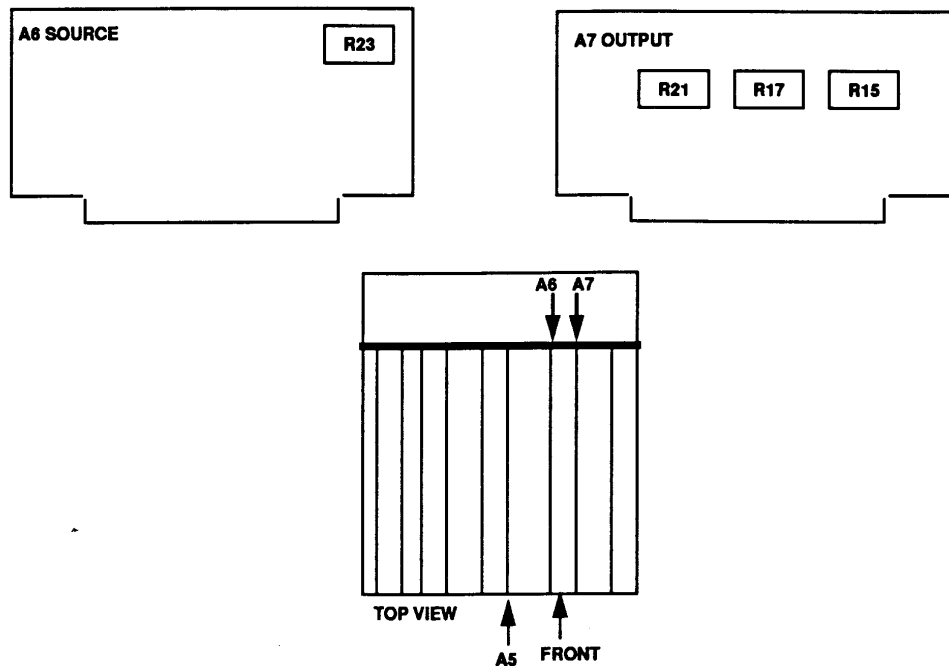

Figure 6. Output level - adjustment locations.
(1) Press keys and enter values using **DATA ENTRY** keys as listed in (a) through (d) below:
(2) Adjust A6R23 (fig. 6) for a multimeter indication of 3.000 V.
(3) Enter **511 mV** using **DATA ENTRY** keys and record multimeter indication.
(4) Enter **512 mV** using **DATA ENTRY** keys and adjust A7R21 (fig. 6) for a multimeter indication of 1 mV greater than that recorded in (3) above (R).
- (5) Enter **1.023 V** using **DATA ENTRY** keys and record multimeter indication.
- (6) Enter **1.024 V** using **DATA ENTRY** keys and adjust A7R17 (fig. 6) for a multimeter indication of 1 mV greater than that recorded in (5) above (R).
- (7) Enter **2.047 V** using **DATA ENTRY** keys and record multimeter indication.
- (8) Enter **2.048 V** using **DATA ENTRY** keys and adjust A7R15 (fig. 6) for a multimeter indication of 1 mV greater than that recorded in (7) above (R).
- (9) Enter **3.000 V** using **DATA ENTRY** keys and adjust A6R23 (fig. 6) for a multimeter indication of 3.000 V (R).